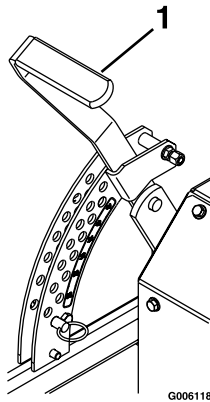

Figure 10
3. Raise the deck height lever to the transport position (also the 5 inch (12.7 cm) cutting height position)(Figure 10).